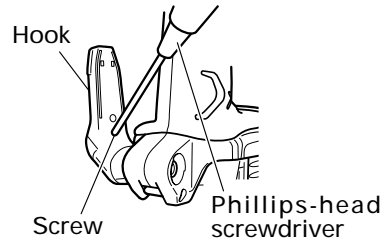

Fig. 14
- (1) Loosen the hook screw with a phillips-head screwdriver (No. 1). (Fig. 14)